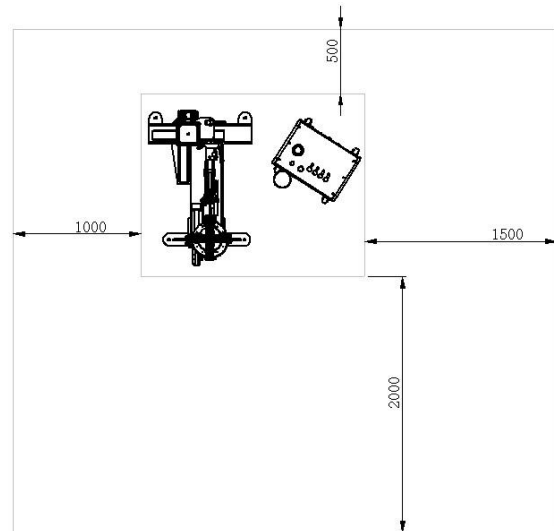

FIG.02
- To select safe site according to relevant safety rules. The tire changer needs to connect to the power supply. It should choose a place that is convenient for power connection and the installation space that is convenient for operators to operate(Refer to FIG.02 dimension layout) . If installed outdoors, the machine must be provided with a shed from rain.